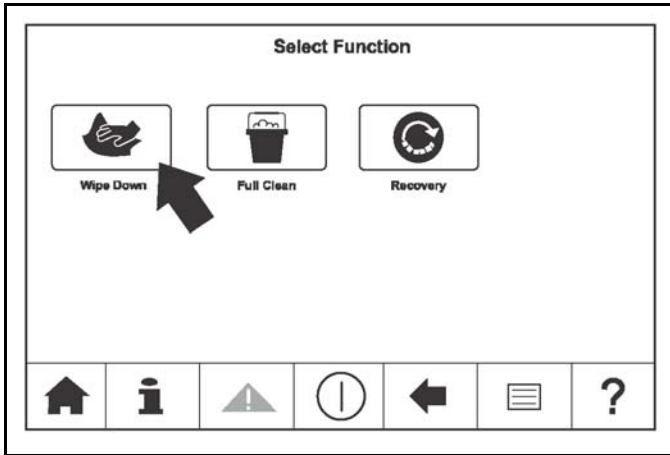

Figure-96
1. Press the Wipe Down key to enter the Wipe Down mode. See Figure-96.